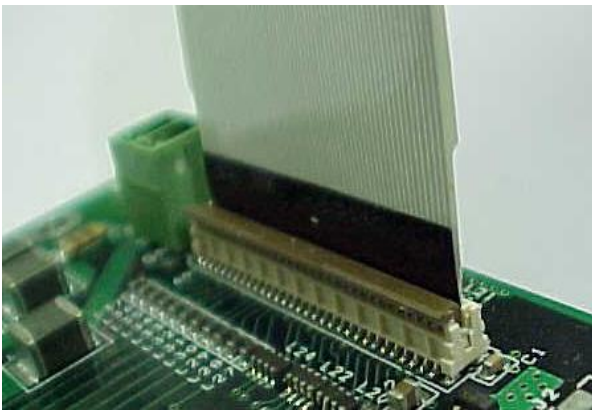

Figure 7.5 Cam Lock Up (Open Position)
1. To remove the display cable, rotate the cam to the open (up) position (see Figure 7.5).